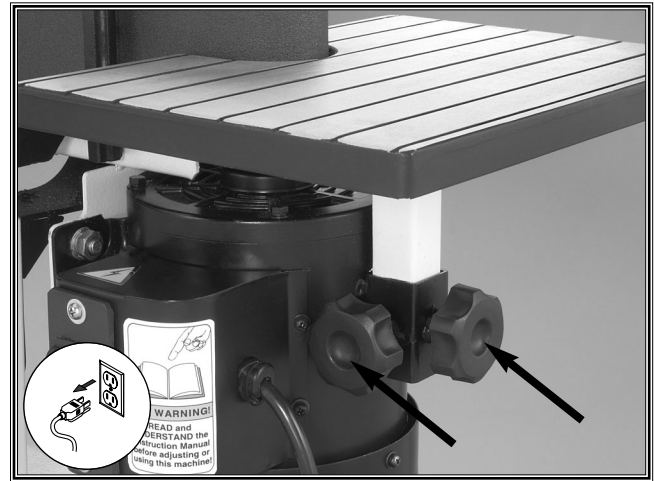

Figure 18. Height adjustment knobs.
2. Loosen the lock knobs in **Figure 18** to adjust the contour table height to the desired position. Note— *Keep enough of the table post in the bracket so the adjustment knobs can make contact.*